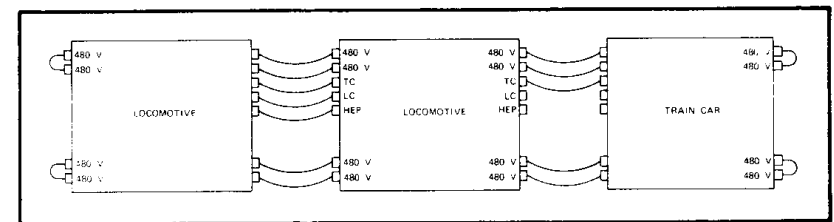

FIG. 15. TYPICAL TRAINLINE JUMPER ARRANGEMENT.
5. Connect electrical jumper cable between locomotives and cars as follows (see Fig. 15):
- b. Between locomotives, jumper one set of Head End Power (HEP), Loco. Control (LC) and Train Comm. (TC) receptacles between units and both sets of 480 vac receptacles between units.